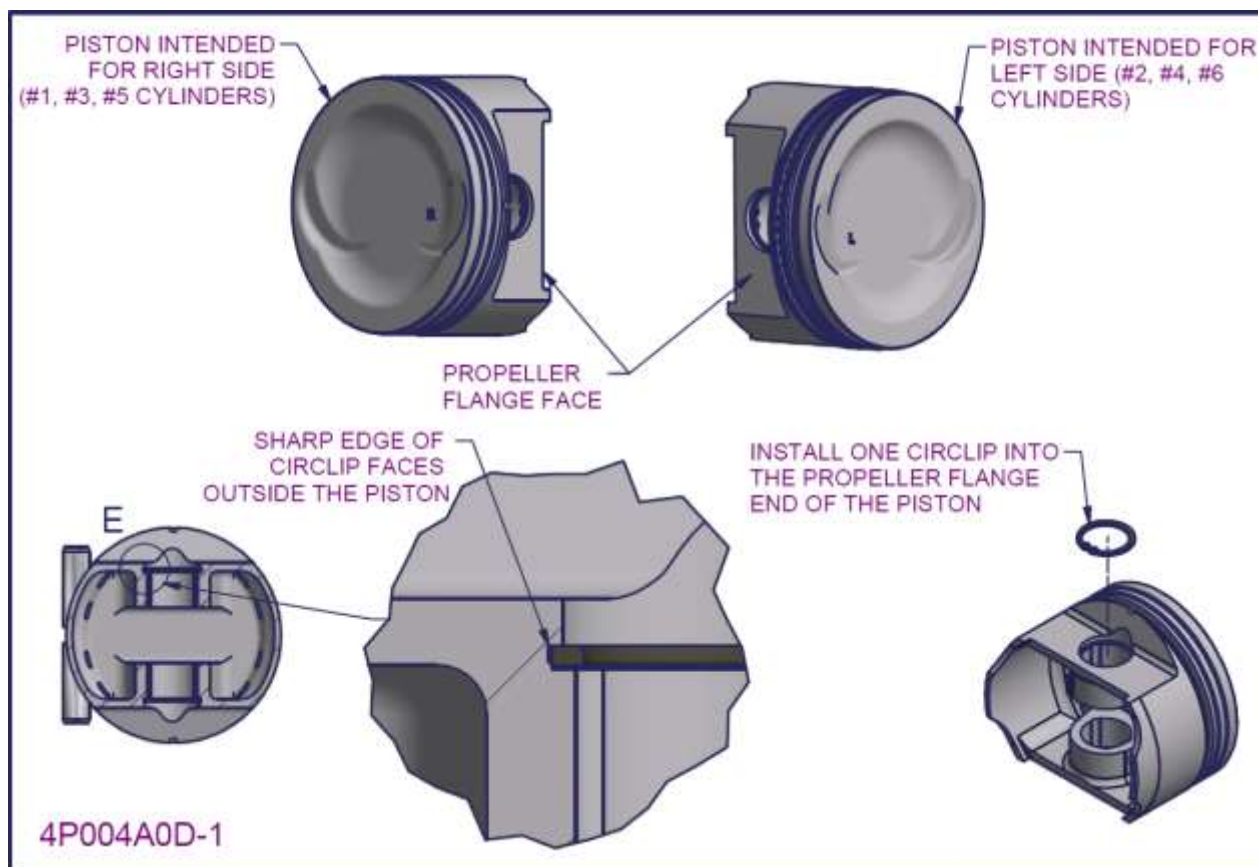

Figure 64 – 2200/3300 cylinder assembly 7
- Both left and right side pistons must be installed into the engine with the valve reliefs in the crown forming a 'smiley face' (not a frowning face). Based on this orientation the Propeller flange faces of the piston (i.e. the end of the piston which must be installed closest to the propeller flange) are indicated in Figure 64.
- Ensure the circlip is installed with the sharp edged face pointing to the outside of the piston as shown in Figure 64.